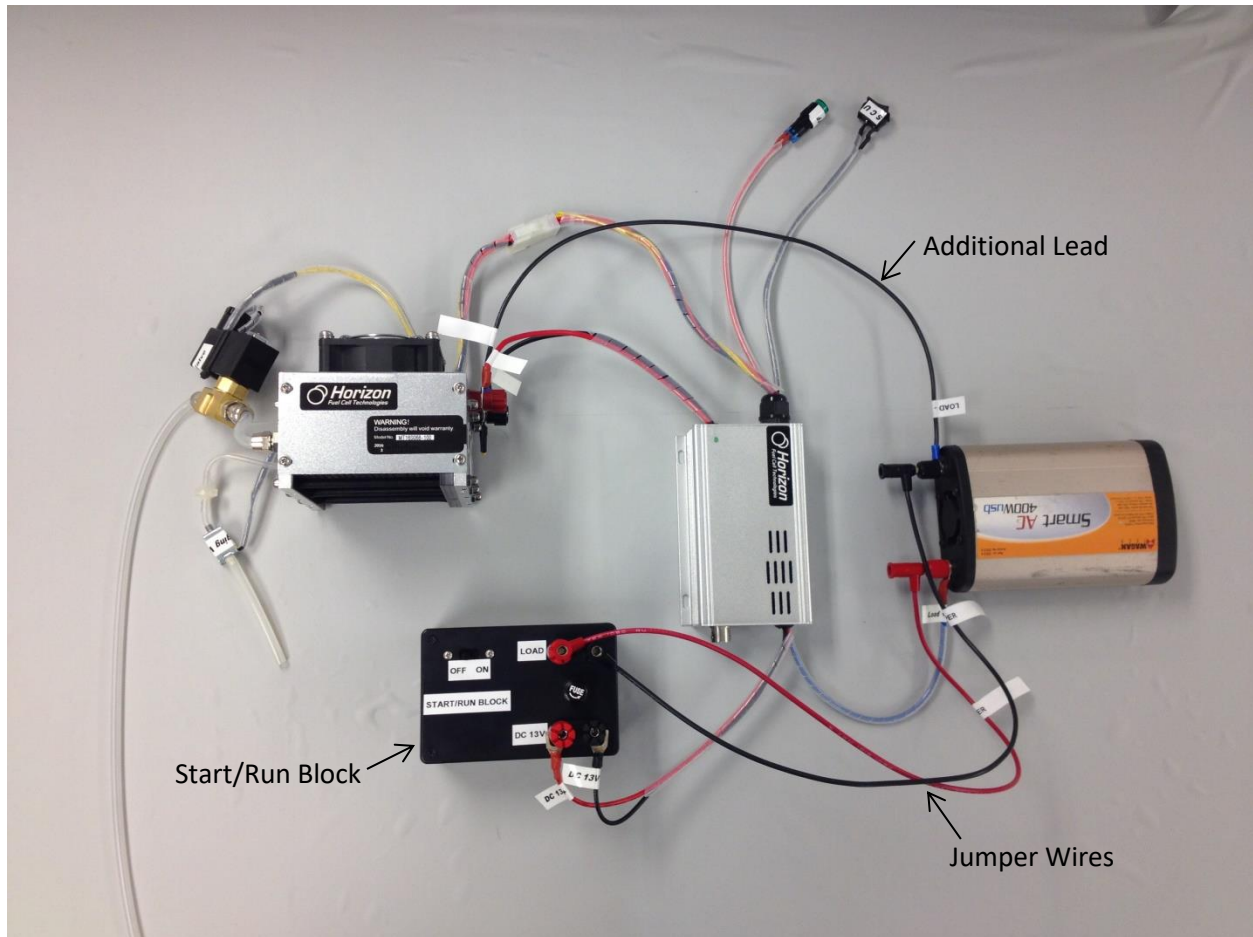

Figure 1. Layout of complete H-100 Fuel Cell System with the Start/Run Block connected.
- Additional **Step 6:** Use additional black wire lead to connect the fuel cell to the load. Ringlet goes on the negative (-) post of the fuel cell and the spade connector goes on the negative (-) post of the inverter. See “Additional Wire” in Figure 1.
- Substitution to **Step 8:** Use the Start/Run Block in place of the power supply. Verify the Start/Run Block is switched off. Connect the DC 13V +/- leads to the binding posts labeled “DC 13V” through the side port holes. Use the additional jumper leads to connect the Start/Run Block Load to the DC input on the inverter. See “Jumper Wires” in Figure 1.